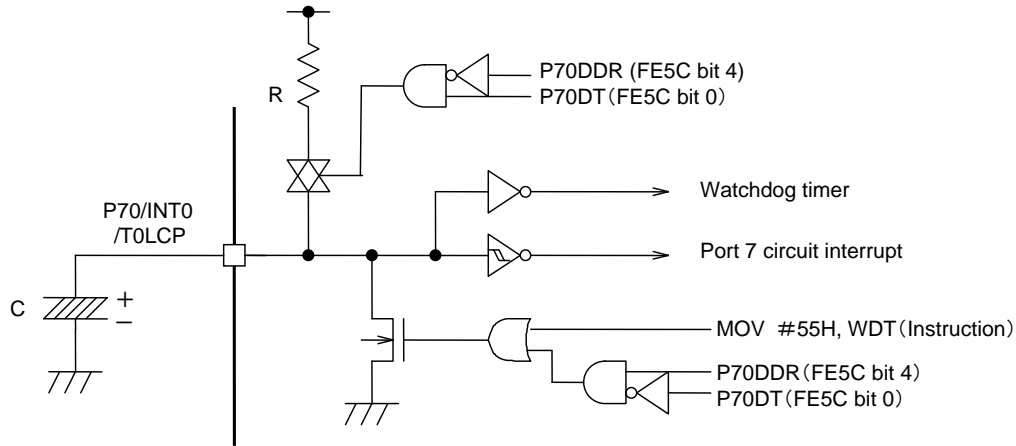

Fig. 4.5.3 Sample Application Circuit with a Pull-up Resistor
- 3) The external resistor to be connected to the watchdog timer can be omitted by setting bits 4 and 0 of the Port 7 control register (P7:FE5C) to 0 and 1 and connecting a pull-up resistor to the P70/INT0/T0LCP pin (see Figure 4.5.3).